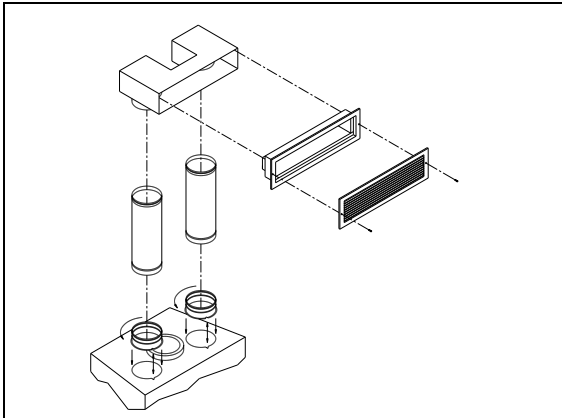

Figure 14
1. Single hot air outlet including: (see Fig.14)
1. Remove the top and bottom plates closing up the 8" dia. holes on top of the fireplace. Then, cut the insulation in order to obtain two 8" dia. free openings. Fix the adaptors on the fireplace openings by turning clockwise (figures 14 and 15).